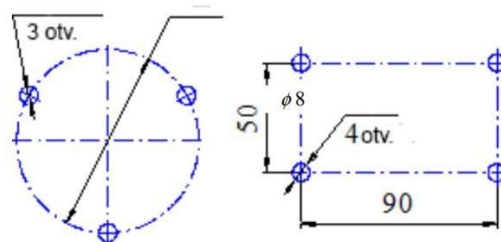

Figure 3
6.2 Suspension 8 can be mounted under the ceiling (Figure 1) or suspension 9 (Figure 2) can be attached to the wall. Please mark the places for attaching the suspension as on the (Figure 3) and on the wall acc. (Figure 4).